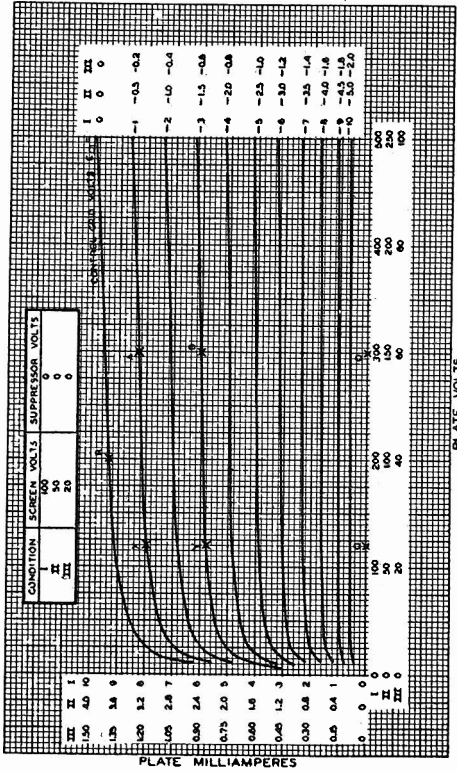
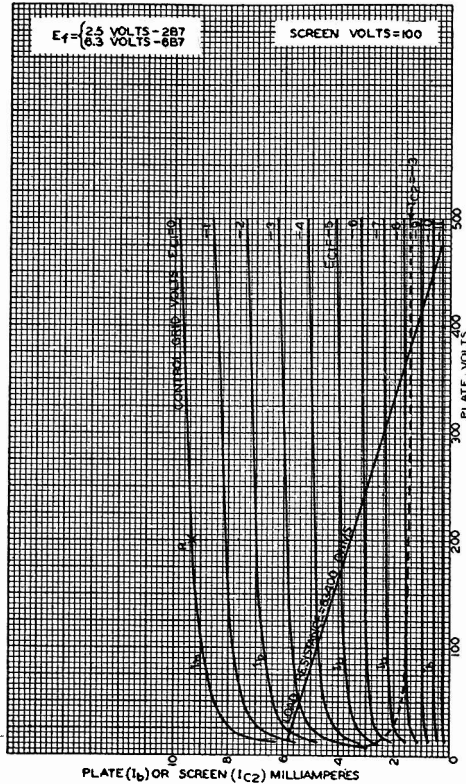
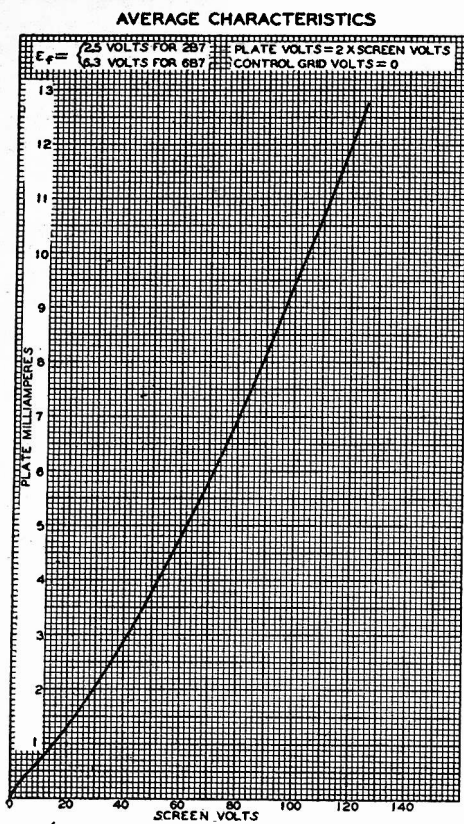
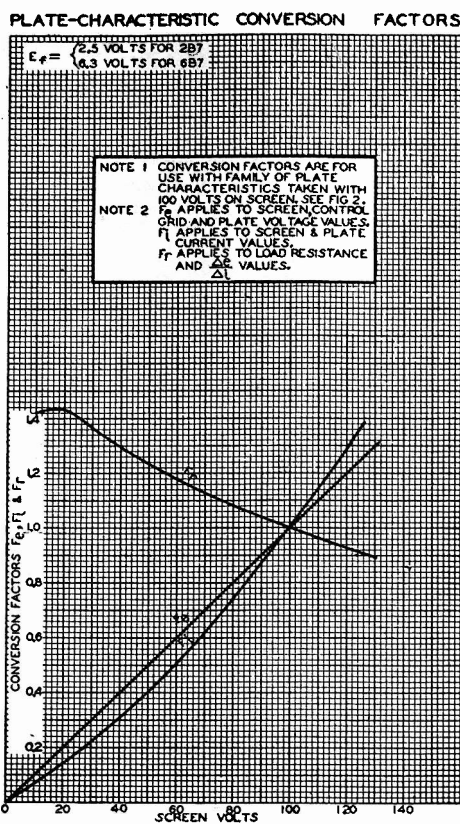

FIG. 1
FIG. 2
FIG. 3
FIG. 4
This condition is illustrated in Fig. 1 by a typical family of plate characteristics. Three voltage scales and three current scales are shown in the diagram. Regardless of the magnitude of the voltages applied to the electrodes of the tube, the shape of the curves remains the same, provided that all the voltages are changed proportionately. That is, when the plate voltage is made one-half, the screen voltage and grid voltages must be made one-half as well.
Therefore, if the electrode currents and other pertinent facts are known for one set of voltage conditions, it is possible to establish the current scale for any other set of voltage conditions simply by determining the current at a reference point (R in Fig. 1) for the new voltage conditions.
In Fig. 2 is shown a family of plate characteristic curves for a typical pentode, the 2B7. To establish a new voltage scale for any desired set of voltage conditions, it is merely necessary to multiply all the voltages in the given family of curves by the appropriate value of voltage conversion-factor (F_e).
At the point R (Figs. 1 and 2) the screen voltage bears the following relationships to the other electrode voltages:
The current conversion-curve is then determined experimentally for a similar set of conditions. That is, a curve of plate current versus screen voltage is taken for the conditions. Bias volts = 0, suppressor volts = 0, and plate volts = twice the screen volts. This curve is shown in Fig. 3.
Since the ratio of the several electrode currents to each other remains constant for all proportionate voltage changes, the current scale for any new voltage conditions can be established from a single value of plate current. This single value of plate current at the desired screen voltage is taken from the current-conversion curve in Fig. 3. Its location as a reference point on the new family of plate characteristics is determined by the conditions under which the current conversion-curve was taken.
For convenience, it is desirable to establish a curve of current conversion-factor (F_1) which gives the value by which all the electrode currents shown in the original family of plate characteristics must be multiplied to determine the currents at any other screen voltage. Such a curve is shown in Fig. 4. It is determined by plotting values of the ratio of the plate current at the reference point R in Fig. 2 to the value of the plate current (taken from the current conversion-curve in Fig. 3) at a similar point for any other screen voltage.
The voltage conversion-factor (F_e) corresponding to different screen voltages is shown in Fig. 4. To convert the original family of plate characteristics to any other screen voltage, all voltages in Fig. 1 are multiplied by F_e . An additional curve of resistance conversion-factor (F_r) versus screen voltage is also shown. This curve is determined by plotting the ratio of F_e to F_1 at the various screen voltages.
The conversion-factor curve (F_i) for current. This is determined by plotting values of the ratio of the plate current at the reference point (R) to the value of the plate current (see Fig. 3) at a similar point for any other screen voltage.
Since the voltage conditions of Fig. 1 may be converted to any other desired condition simply by multiplying the scales by appropriate values of conversion-factors, optimum operating conditions determined on the original family of characteristics can be converted to the desired conditions.
the operating conditions for the pentode section of the 2B7 as a resistance-coupled audio-frequency amplifier with a plate supply of 100 volts. A desirable load line (83,440 ohms) is placed on the family of plate characteristics shown in Fig. 2. The conditions for operation at the voltages shown for the given family of plate characteristics are then determined in the usual way and the values noted. The values follow:
**The value of screen current for -6 volts bias is not shown on the curve in Fig. 2. However, its value is readily calculated since the ratio of plate current to screen current at any bias voltage is constant for a given plate voltage. At 240 volts plate and -3 volts bias, the ratio of plate current to screen current equals $5.94/1.50 = 3.96$. The ratio of the plate current to the screen current at -6 volts bias is the same. Since the plate current at -6 volts bias is 3.1 milliamperes, the
The current conversion-factor (F_i) is taken from Fig. 3 for the new screen voltage of 20 volts. The new values of currents are found by multiplying the original current scale by $F_i = 0.14$. Thus,
The resistance conversion-factor (F_r) equals $F_v/F_i = 1.43$, or its value can be taken directly from the curve in Fig. 3. The new value of load resistor is determined by multiplying the original value by F_r . The new value of self-biasing resistor is determined in the same way.